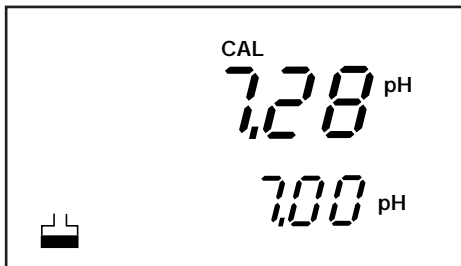

Figure 12
5. Press **CAL/MEAS** to enter the pH calibration mode. The **CAL** indicator appears. The primary display will show the measured reading while the smaller secondary display will indicate the pH standard buffer solution. —See Figure 12.